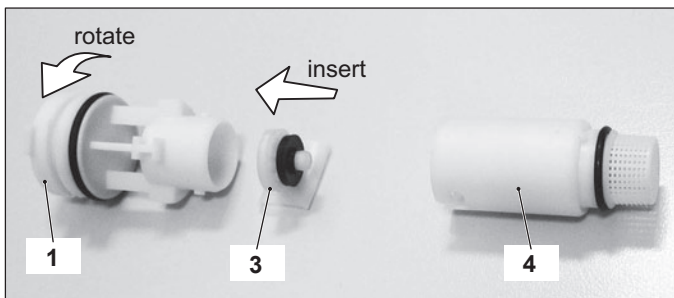

Figure 14.5
- 3 To remove the body 4 with the filter from the flow switch group rotate the flow switch plug 1 (Figure 14.5).
- 2 Rotate the flow switch plug 1 to separate it from the body 4 (Figure 14.5).
- 3 Insert the flow limiter 3 as shown in Figure 14.5.